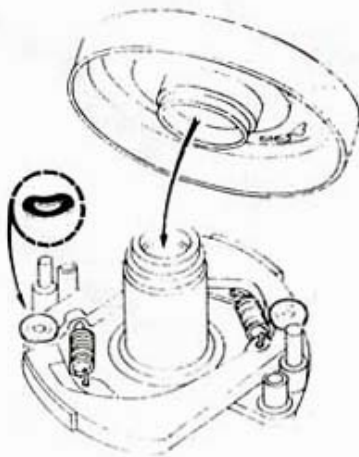

Fig. 5
- Fit the variator bell onto the hub/flyweights assembly (fig. 5).